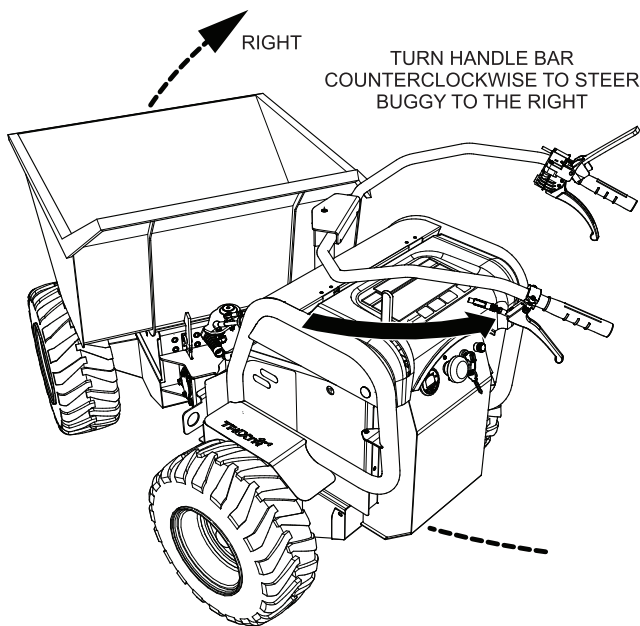

Figure 27. Steering the Mini Dumper (CCW-Right)
2. To turn right (Figure 27) when traveling in the forward direction, turn the handle bar in the counterclockwise direction.